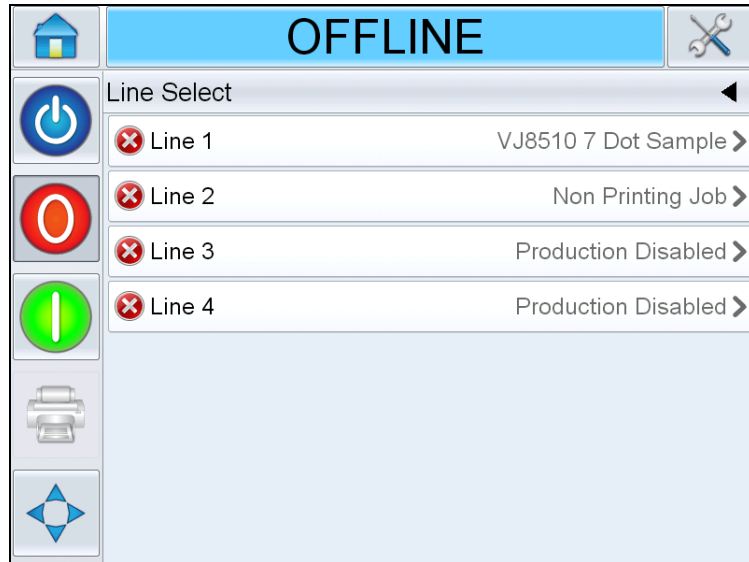

Figure 6-33: Line Select Page
- 4 *Line Select* page appears again (Figure 6-33 on page 6-27).